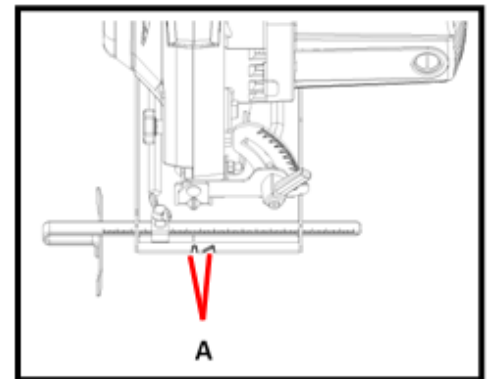

Fig. 18
The sighting notch (A) near the front of the baseplate provides guidance during free-hand cuts. When performing cuts, the cutting line for the saw blade can be observed via a triangle shaped sighting notch at the front of the base plate. Align the cutting line on the workpiece with the triangle shaped sighting notch at the front of the Base Plate. Fig. 18